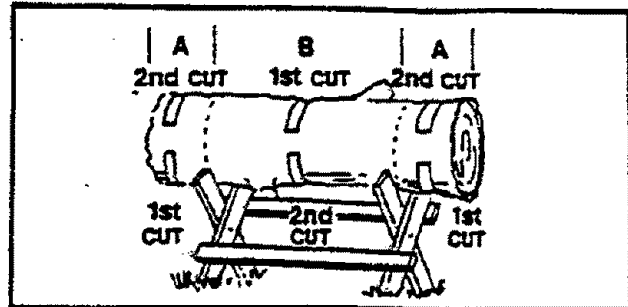

Figure 25
- ## 5. BUCKING — USING A STAND (Figure 25):